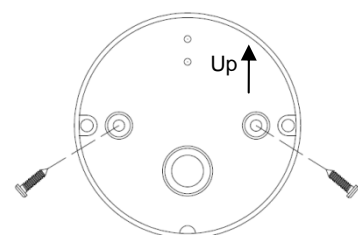

FIGURE 3
- There is an Up arrow on the mounting plate ensure this is pointing Up when marking the holes for drilling. FIGURE 3